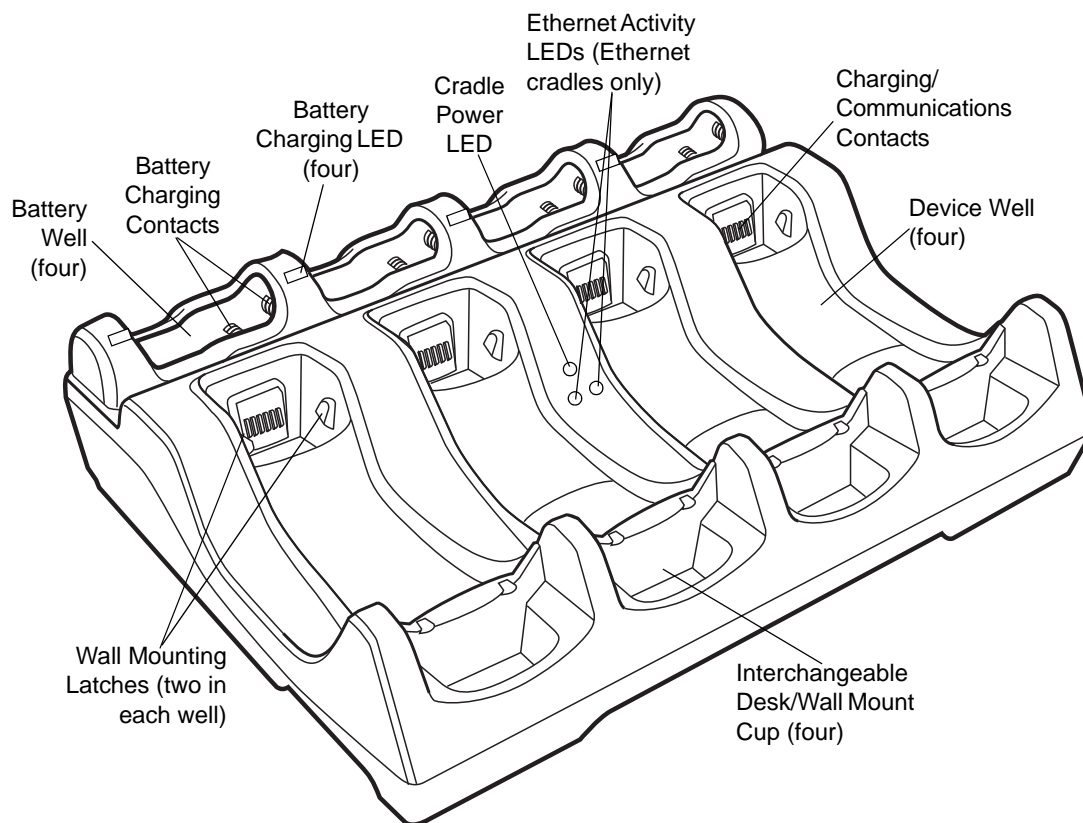

Figure 1-5 *Four Slot Cradle - Front*
1. Insert the host interface cable into the cradle's USB/host port. See Figure 1-2 on page 1-4 and Figure 1-5 on page 1-7.